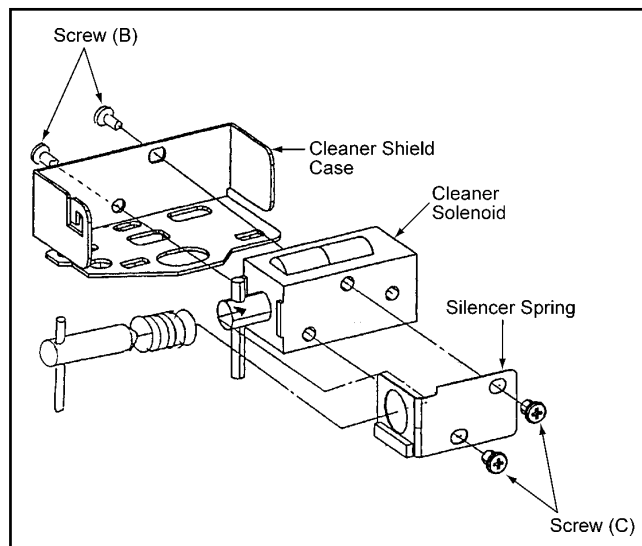

Figure 2-8-2
3. Unscrew the 2 screws (B) as shown in Figure 2-8-2, and remove the Cleaner Shield Case.
4. Unscrew the 2 screws (C) as shown in Figure 2-8-2, and remove the Silencer Spring from the Cleaner Solenoid.